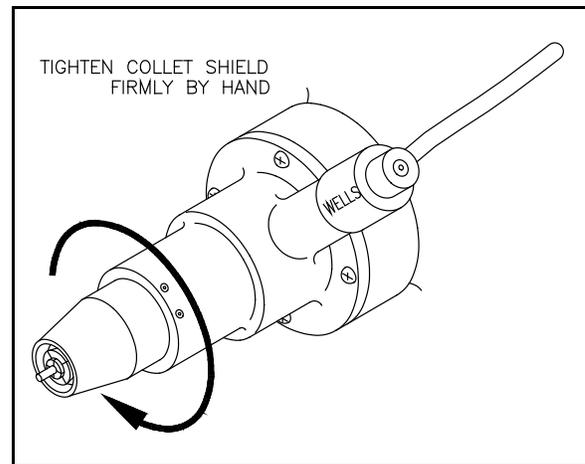

Figure 12.
- 6.10.3 Screw the collet shield onto the threads rotating **CLOCKWISE**. See Figure 12. Tighten firmly by hand.
6.11.3 Screw the collet shield onto the threads by rotating **CLOCKWISE**. See Figure 12. Tighten firmly by hand.